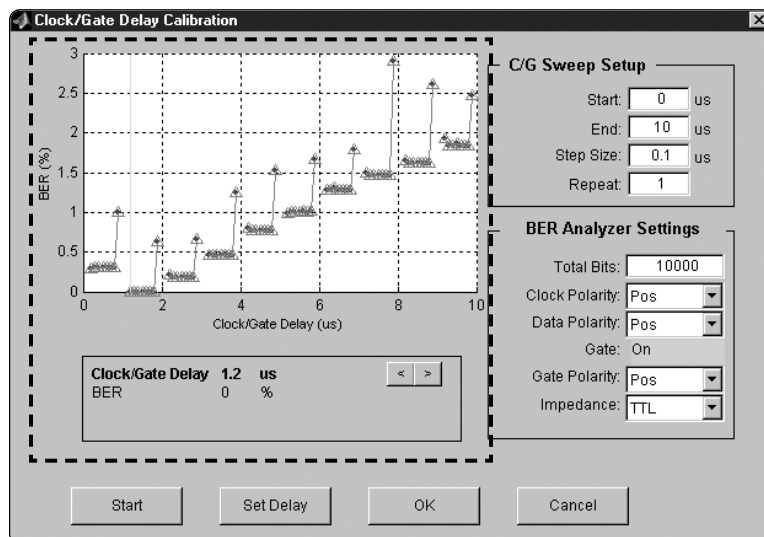

Figure 46. BER vs. Clock/Gate Delay calibration results.
- After the plot has been generated, a marker is automatically placed at the Clock/Gate Delay setting that yields the minimum BER, Figure 46. Notice that the plot looks similar to a step function. With no impairments added to the signal, there is a range of approximately $_$ a symbol period that yields the same BER results. In this case, the marker is placed at the first BER minimum. When impairments are added to the signal, the plot no longer looks like a step function. Instead, it looks like a series of parabolas, from which a true minimum can be found. By initially performing the calibration without impairments added to the signal, the Clock/Gate Delay range for optimum BER can easily be determined. As a result, when later performing Clock/Gate Delay Calibration on an impaired signal, the sweep range can be adjusted accordingly.